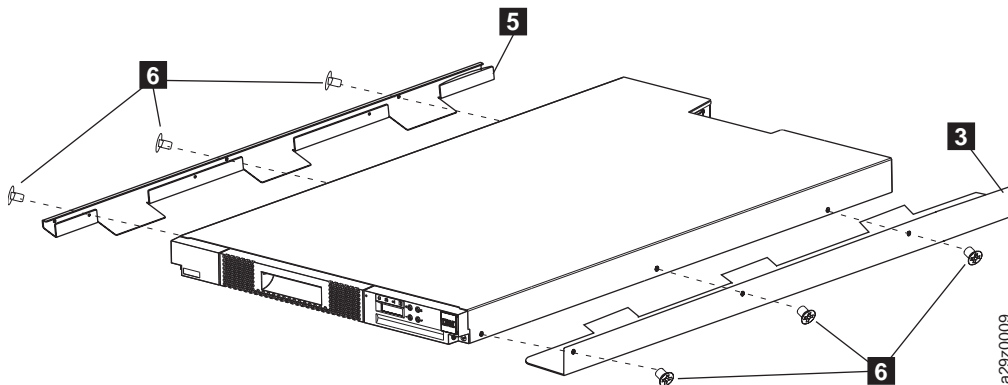

Figure 163. Removing side rails from the library chassis
- c. Remove the flat-head screws **6** on each side to remove the left **5** and right **3** rails from the chassis (Figure 163).